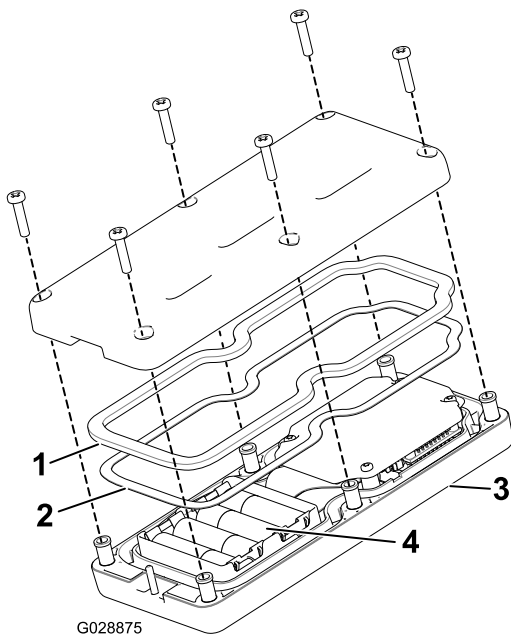

Figure 18
2. Install the batteries into the terminal cradle observing proper polarity. (If the batteries are improperly installed, the unit will not be damaged, but it will fail to operate.) The cradle is embossed with polarity markings for each terminal (Figure 18).
3. Ensure that the steel gasket and rubber seal are seated in the channel in the remote and set the back cover in place (Figure 18).
4. Secure the cover with 6 screws (Figure 18) and torque them to 1.5 to 1.7 N-m (13 to 15 in-lb).